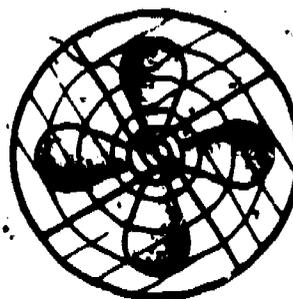

Figure 1. Propeller Fan
**Propeller Fan Blades.** Propeller fan blades are found on the pedestal or table fan common to home use. Fans of the ceiling variety use propeller blades. These fans are used to move air within a given area (circulation). Normally, they have a safety shroud around them and operate satisfactorily against static pressures of 1/2 to 3/4 inch water pressure. They can be used only if a low volume of air movement is required and normally are used for exhaust or ventilation purposes. They can be direct drive or belt driven, see figure 1.